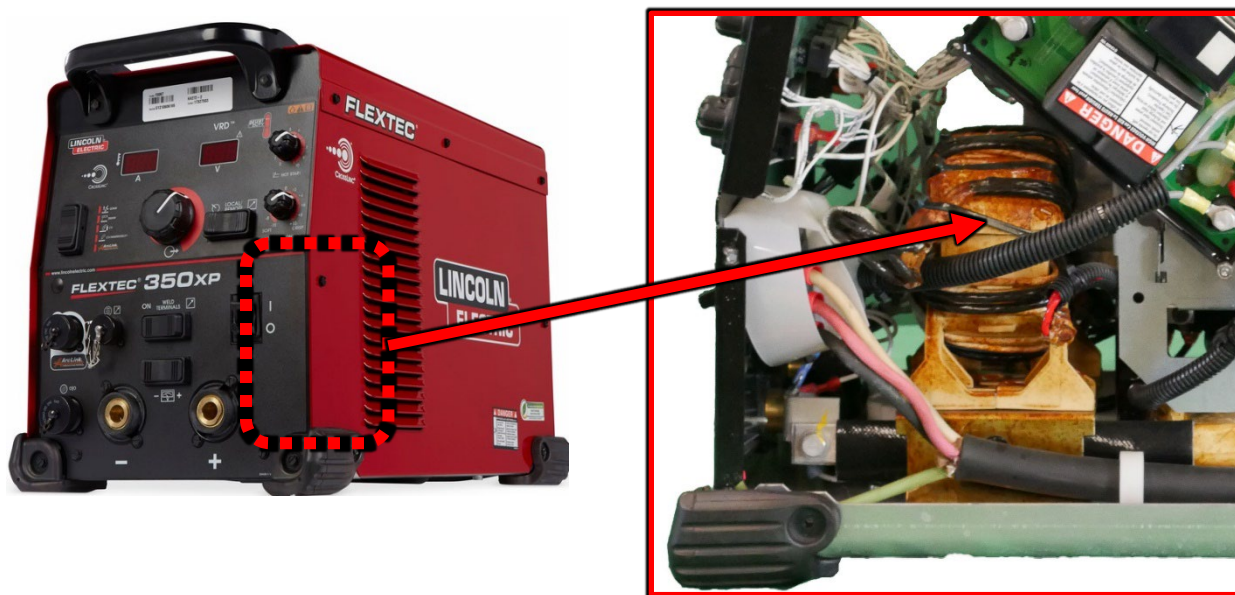

Figure F.1
1. For location of Main Transformer refer to Figure F.1.